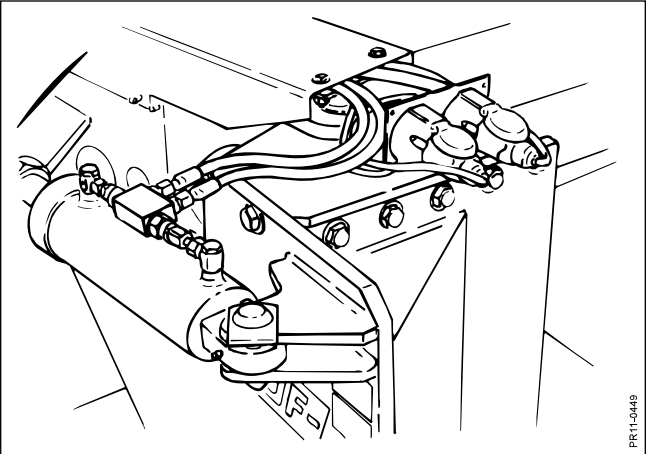
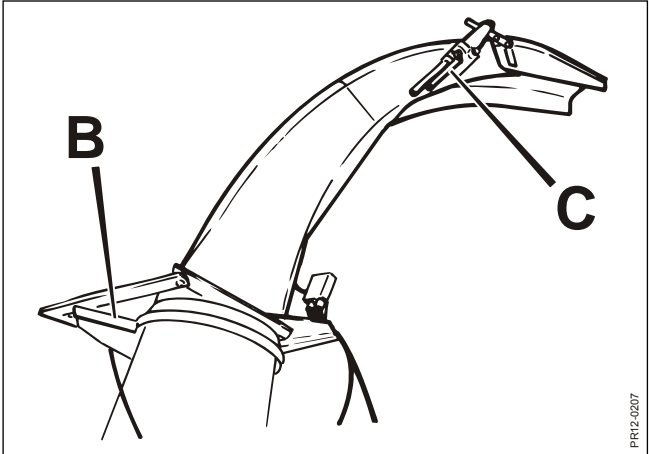

Fig. 2-1
Fig. 2-2
- Fig. 2-1** The machine requires 1 single-acting hydraulic outlet for pick-up, 1 double-acting outlet for the reverse function and one double-acting outlet for the drawbar/chute swivelling. Furthermore a single-acting outlet is needed for the hydraulic hitch which is additional equipment.
- Fig. 2-1** This machine is equipped with a control box from which you for instance adjust the deflector **C** (Fig. 2-2) electronically and switch between two hydraulic functions: - The drawbar (Fig. 2-1) and chute swivelling **B** (Fig. 2-2). The control box is placed in the tractor cabin. For more information on the control box, chute and deflector see chapter 3 "MOUNTING OF EQUIPMENT".